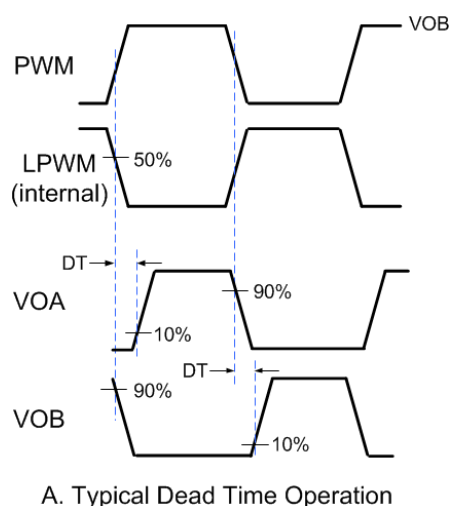
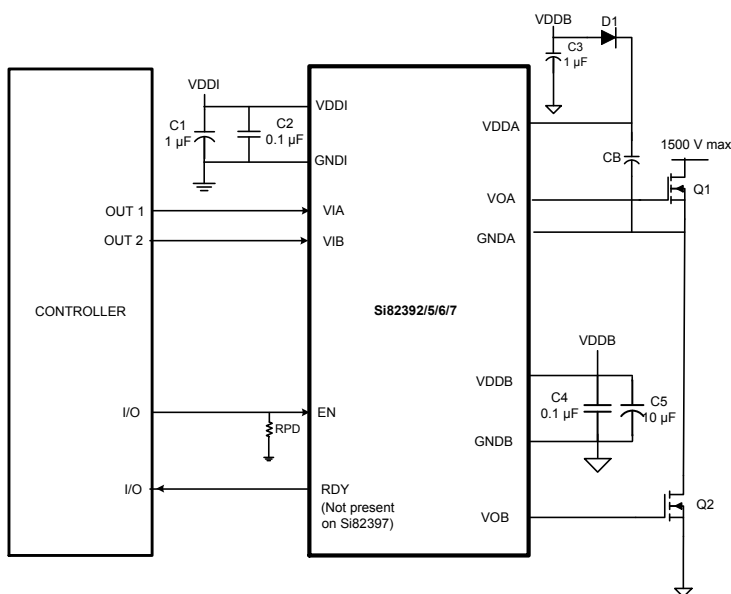

Figure 2.18. Dead Time Waveforms for High-Side/Low-Side Drivers
**Figure 3.1. Si82394/8 Application Diagram**
All high-side/low-side drivers (Si82394/8) include programmable dead time, which adds a user-programmable delay between transitions of VOA and VOB. When enabled, dead time is present on all transitions. The amount of dead time delay (DT) is programmed by a single resistor (RDT) connected from the DT input to ground per the equation below. Note that the dead time pin should be connected to GND1 through a resistor between the values of 6 k $\Omega$  and 100 k $\Omega$  and a filter capacitor of 100 pF in parallel as shown in Figure 3.1 Si82394/8 Application Diagram on page 18. It is highly recommended it not be tied to VDD1. See Figure 2.18 Dead Time Waveforms for High-Side/Low-Side Drivers on page 17 below.